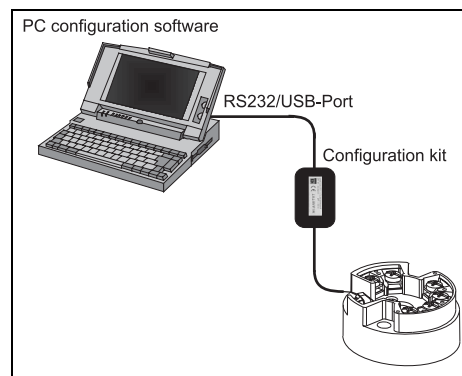

Fig. 7: Connection to PC for configuration
1. Connect the SETUP connector of the interface connecting cable to the SETUP socket in the head transmitter (see 'Fig. 7' in Chapter 4.2).